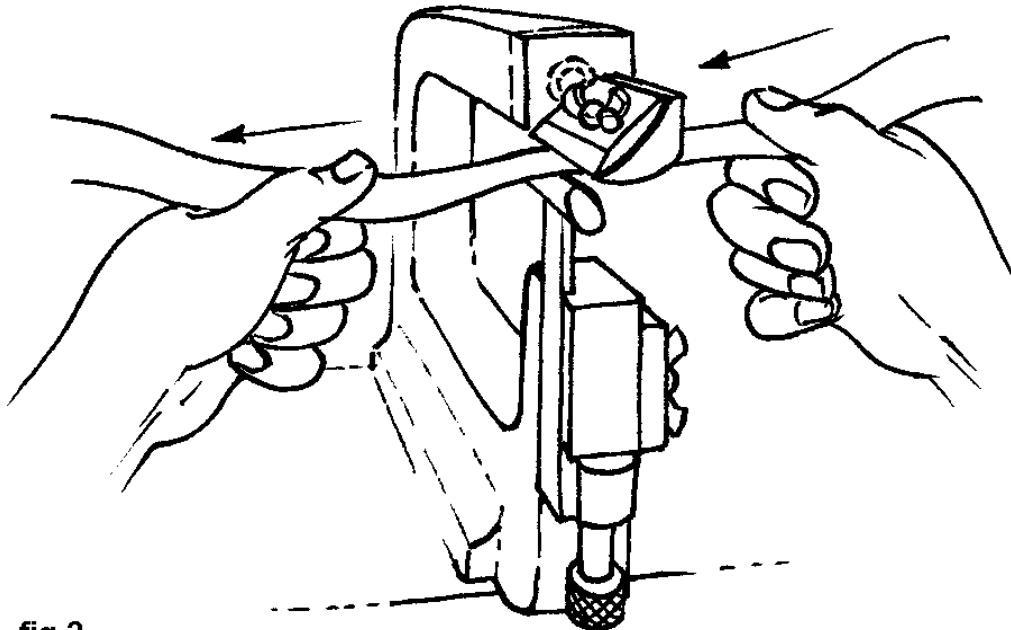

fig.2
- 1 By turning knurled knob in opposite direction, lower the anvil to leave the paring gap required. It is advisable to pare very thin leather in 2 or more cuts. See *fig.2*